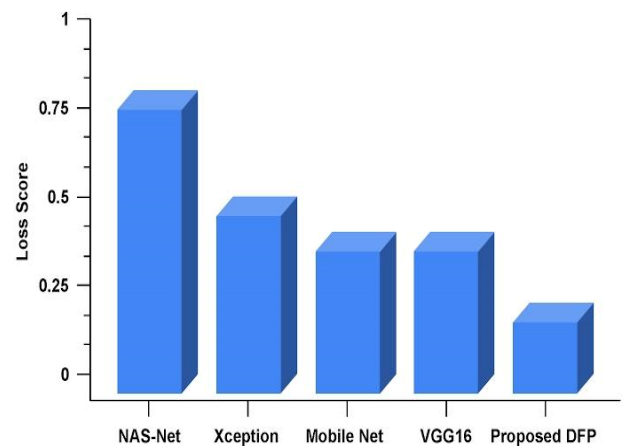
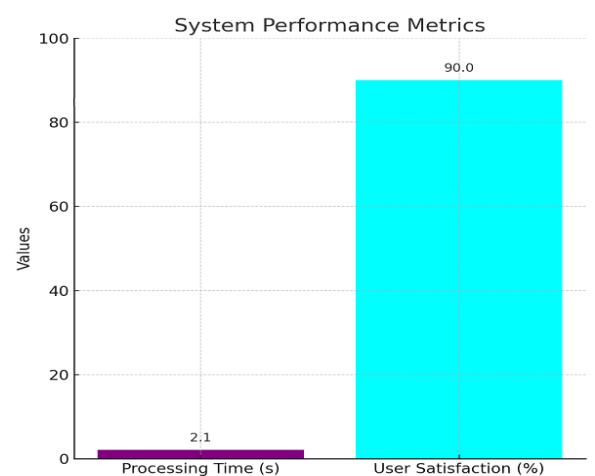
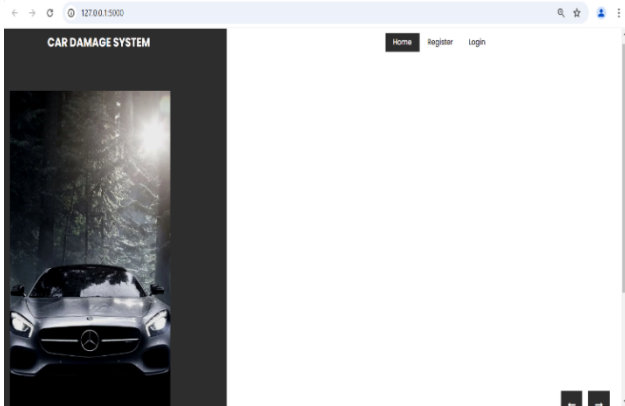
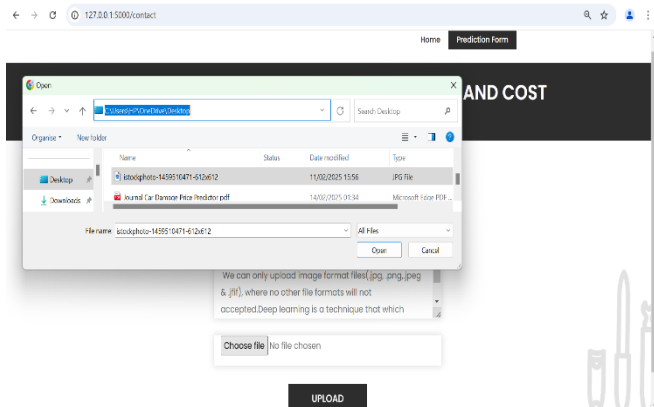

Figure 2 This Chart Compares the Top-1 Accuracy of Different Deep Learning Models
Figure 3 This Chart Highlights Key Performance Metrics, Time and User Satisfaction Percentage
Figure 4 Home Page for Uploading the Car Image to Classify
Figure 5 Image Preview for Uploaded Image
- User Satisfaction:** Over 85% of test users rated the system's overall usability and performance as "Excellent" or "Very Good," reflecting strong user acceptance and satisfaction, Shown in Figure 2, Figure 3, Figure 4, Figure 5 & Figure 6.